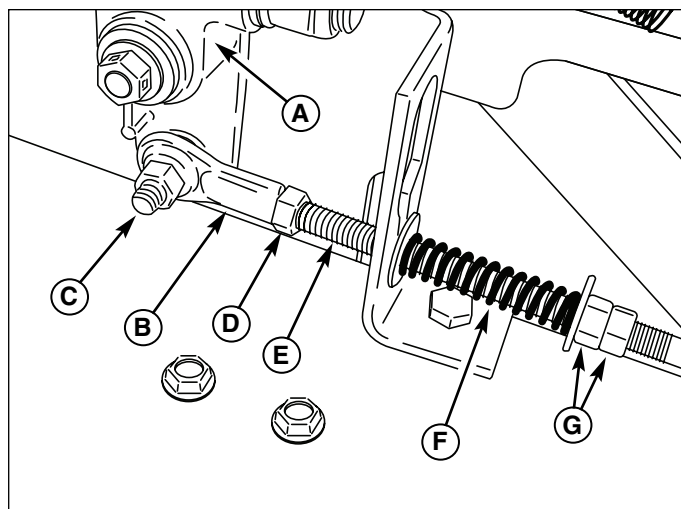

Figure 23. Neutral Adjustment (Right Side Shown)
3. Remove the hardware (C, Figure 23) connecting the rod end (B) to the control bracket (A).